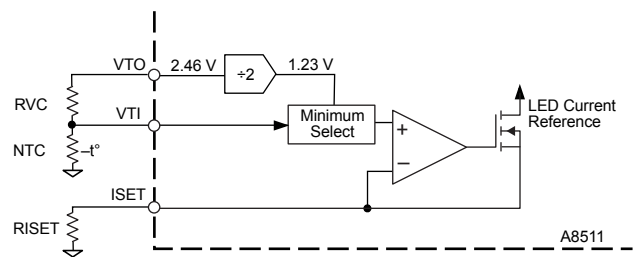

Figure 5. Thermal derating reference circuit
- Analog dimming using the VTI pin. External DC voltage can be applied to the VTI pin to control LED current. LED current varies as a function of voltage on the VTI pin. This configuration is shown in figure 5.
Thermal derating can be achieved by connecting an NTC thermistor between VTI and ground, as shown in figure 5. When the A8511 is enabled and $V_{TI} > 1.1 \text{ V}$, 100% current for the LEDs is controlled by the ISET and DIM pins. When V_{TI} falls below 1.1 V, V_{ISET} starts to follow V_{TI} , resulting in I_{LEDX} varying proportionately with V_{TI} represented by the overlap of the dotted and solid curves. The proportion of I_{LED} to V_{TI} , when LED current is controlled through the VTI pin, is calculated as: